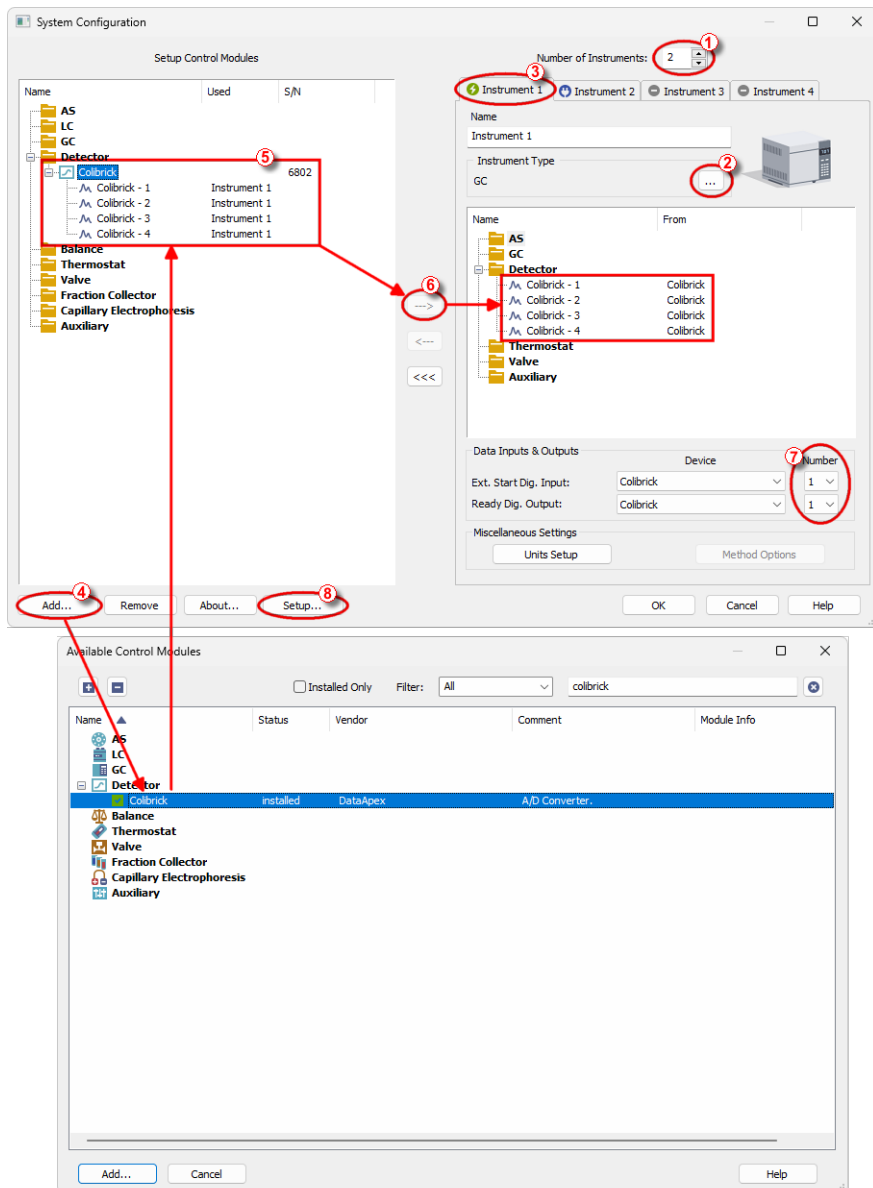

Fig. 6: System Configuration dialog
- Open the *System Configuration* dialog using the *System – Configuration...* command or via the  icon. See **Fig. 6** on pg. **9**.